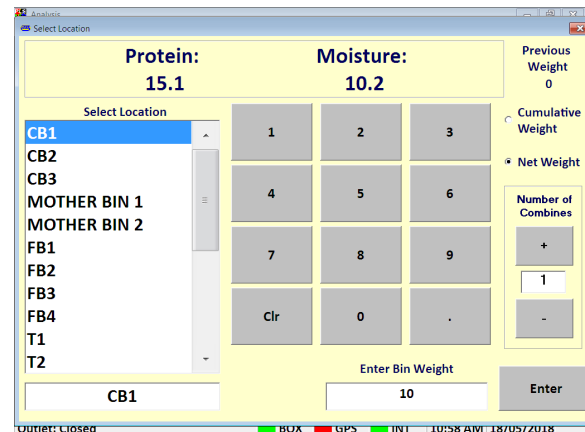

Figure 2.9. Grain Logistics Window
- When the grain tank is full and the out loading auger extends, a proximity sensor is activated. The Grain Logistics window will appear as shown in Figure 2.9 which allows the operator to select a storage location from a pull down list, enter the volume in tonnes, Kg's or bushels and the number of Combine's in use in the field. ie Grain going into a Grain Cart. (This is only activated if the **Storage Data Logistics View** option is ticked in the **Grain Logistics Menu**).